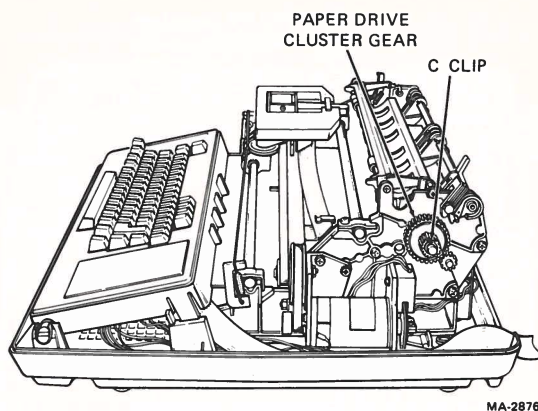

Figure 2-14 Paper Drive Cluster Gear Removal
2. Using retainer clip pliers, remove the C-clip that secures the paper drive cluster gear (Figure 2-14).